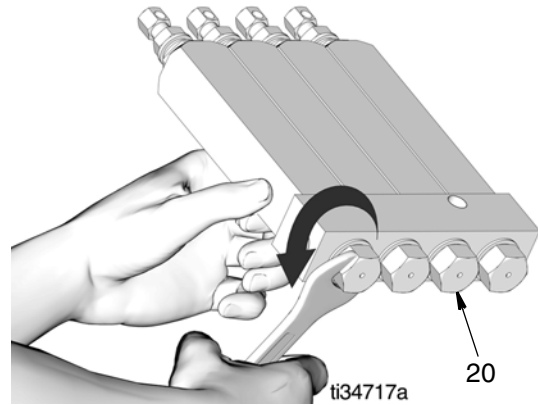

FIG. 1
6. Remove the injector(s) from the manifold by loosening and removing adapter bolts (20) as shown in FIG. 1.